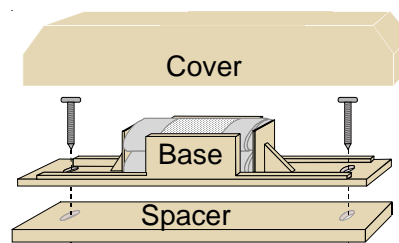

Figure 8 - The Magnet Assembly
- Mount the Magnet Base (refer to Figure 8) using two panhead screws.